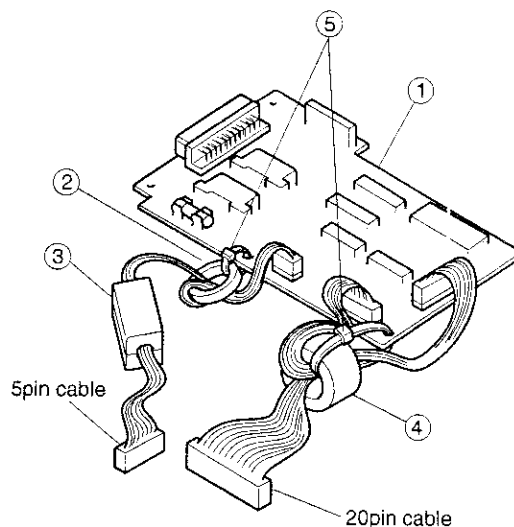

Fig. 2
- 3) Attach ring core (2) (RCORF6652RCZZ) and ferrite core (3) (RCORF2318RCZZ) to I/F PWB (1) 5 pin cable, and attach ring core (4) (RCORF6656RCZZ) to 20 pin cable. When attaching the ring core, turn the cable once and fix with beads band (5). (Fig.2)